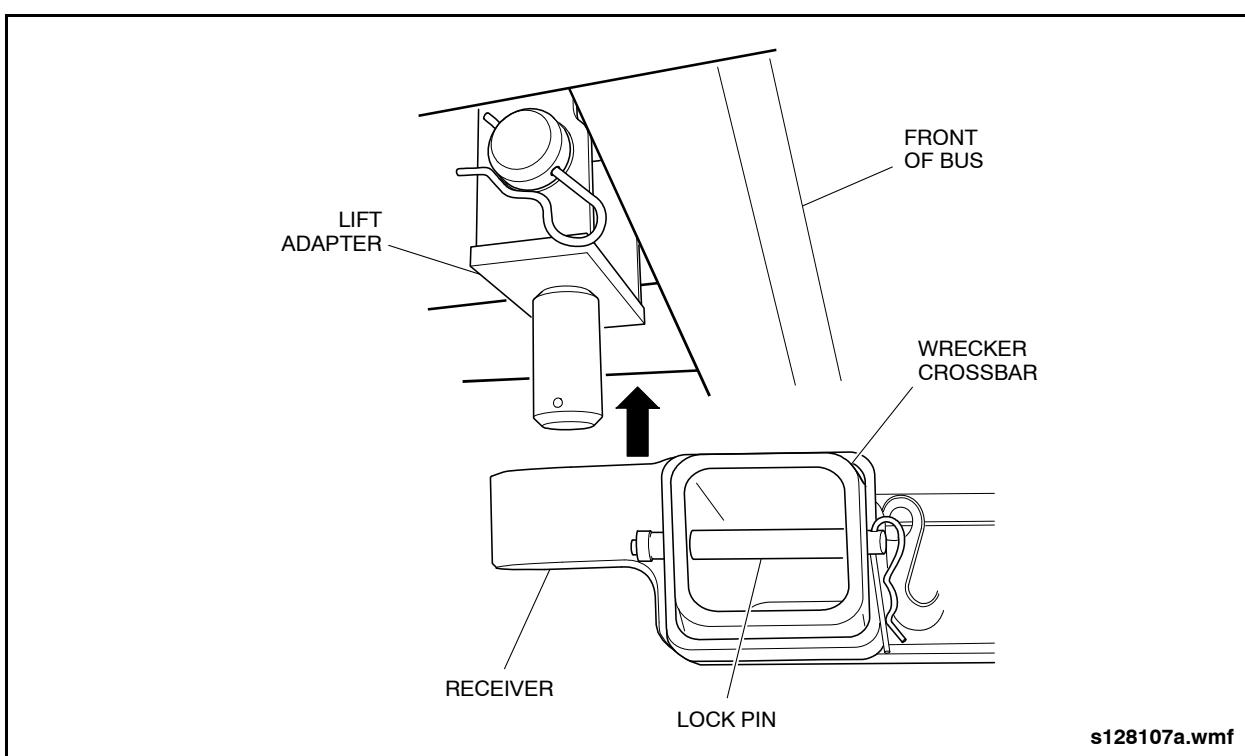

Fig. GI-24: Securing Lift Receivers to Lift Adapters
1. Position the wrecker's lifting boom with the lift receivers in place under the pegs of the lift adapters. See "Fig. GI-24: Securing Lift Receivers to Lift Adapters" on page 50.